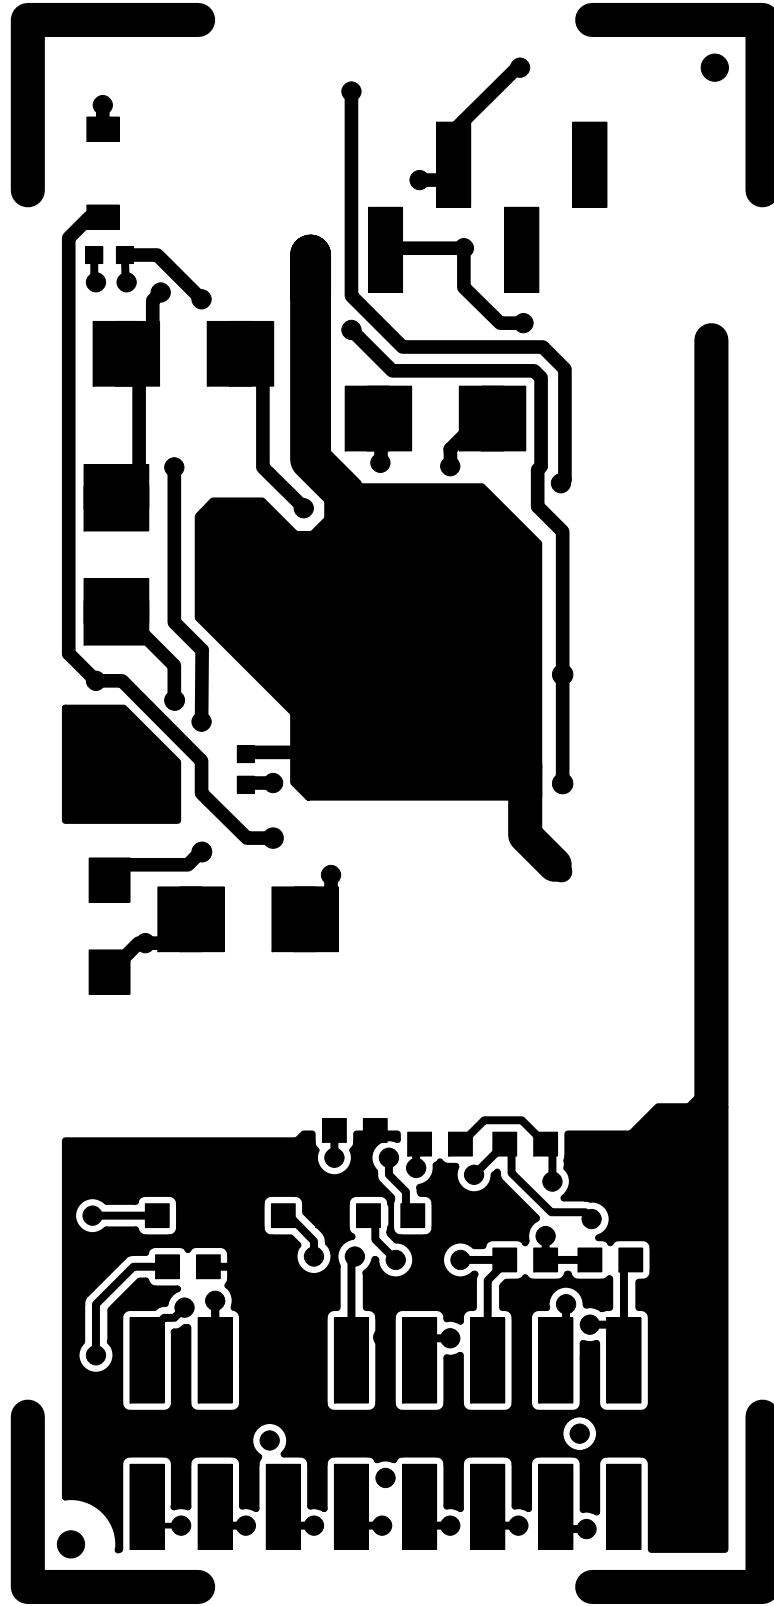

Figure 23. Daughter Card Solder Side Layout
- Updated Figure 23, “Daughter Card Solder Side Layout,” on page 27